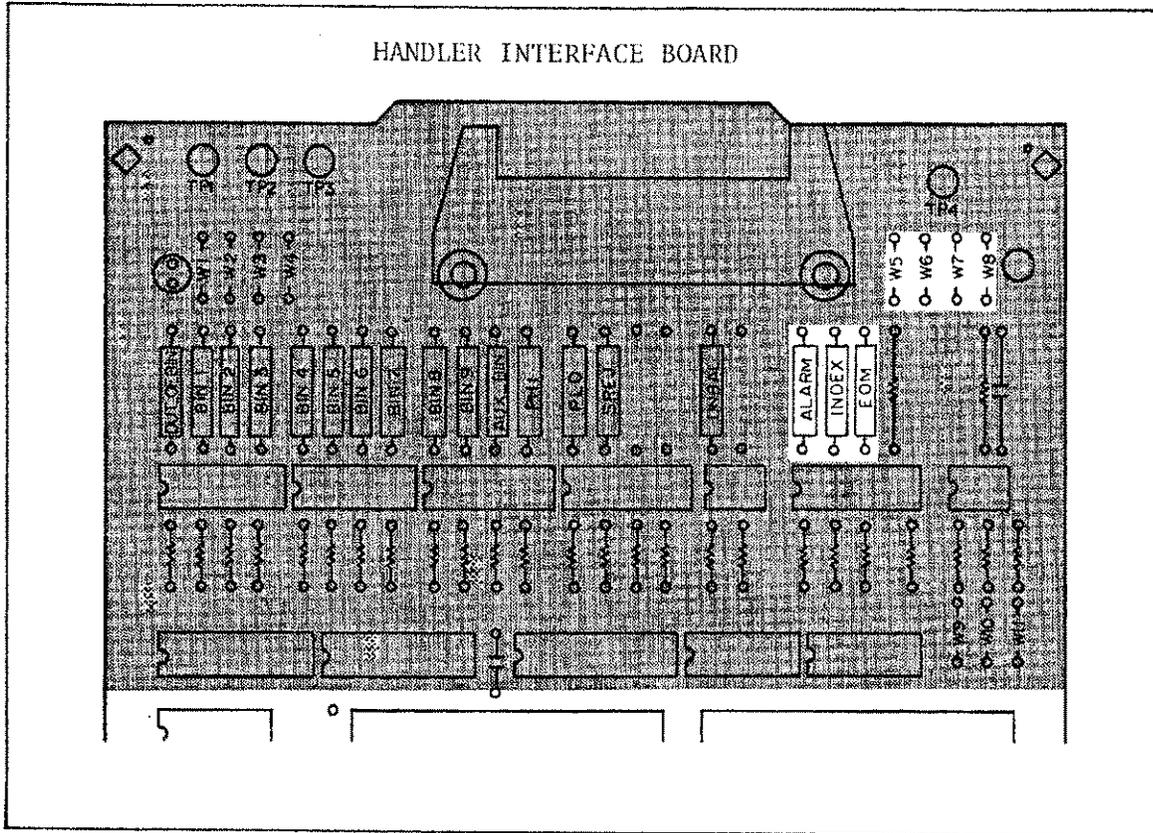

Figure 4-12. How to Set Up the Handler Interface Board 2
13. Set the jumpers in accordance to Table 4-9, (See Figure 4-12).